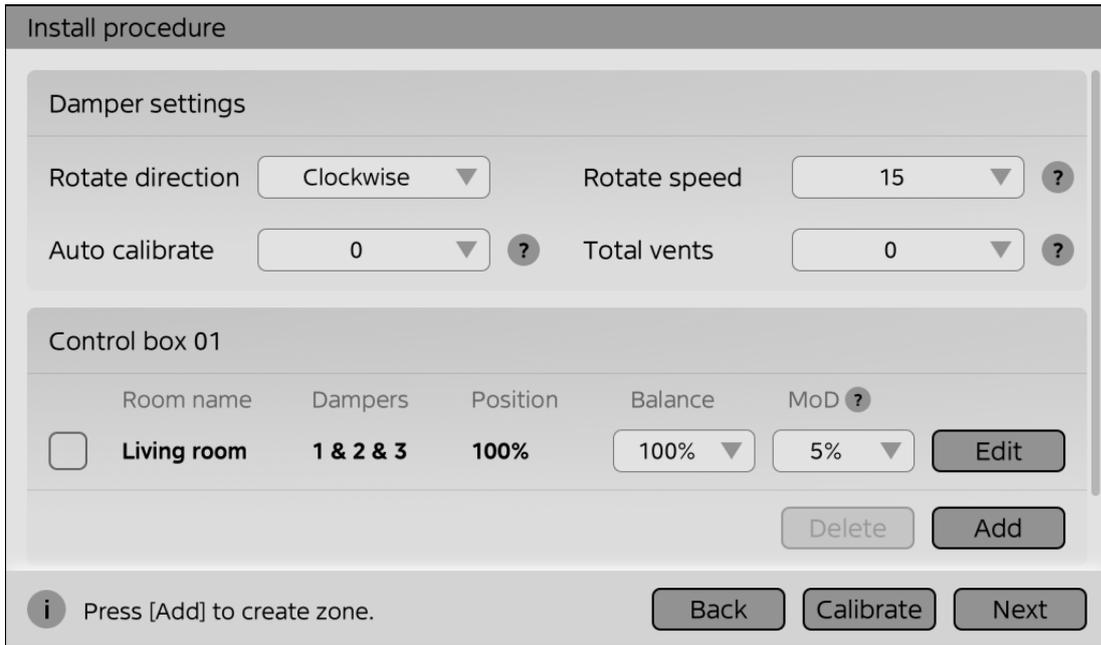

Fig 1.6
- Press **[Calibrate]** to calibrate all dampers. All dampers will start calibrating after pressing the [Next] button. (Fig 1.6)